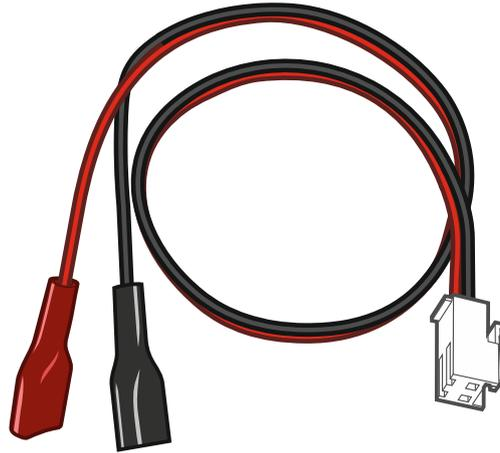

Fig. 2. Battery connection wires (red +, black -).
- ② RESET pins for emergency starting the control panel (see: “Emergency procedure of the control panel start-up” p. 12).
- ③ RS-232 (TTL) port.
- ④ connector for battery connection wires. The wires are included in the set (Fig. 2).
- ⑤ LED indicators:
4. Connect the battery wires (Fig. 2) to the connector on the electronics board.